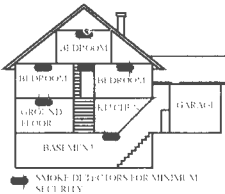

Figure 3: LOCATION FOR PLACING SMOKE DETECTORS FOR A MULTI-FLOOR RESIDENCE
- Install a smoke detector on every floor of a multi-floor home or apartment, as shown in Figure 3.